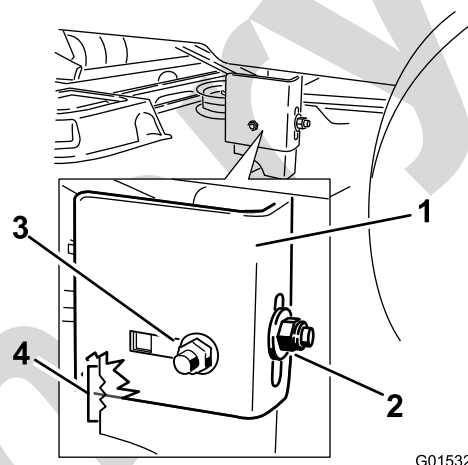

Figure 52
- Stop the deck at the adjusted position and tighten the rear locking nut on the hanger bracket to hold the new position (Figure 52). Tighten the side locking nut on the hanger bracket.